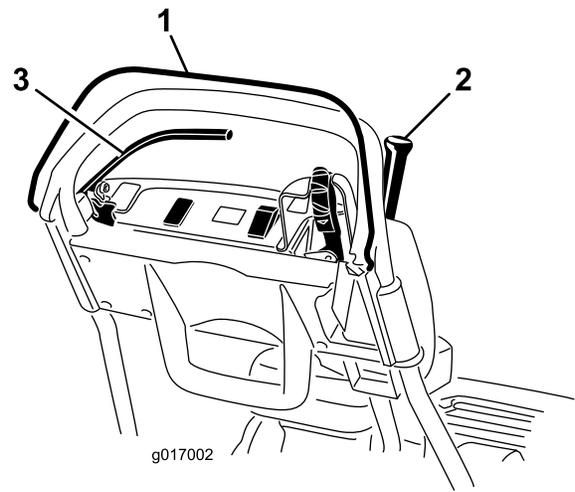

Figure 27
3. With the OPC released, attempt to engage the traction lever (Figure 27). The traction lever should not engage. If the traction lever engages, the interlock system needs service. Correct the problem before operating the machine; refer to Servicing the Traction Interlock Switch \(page 36\).
4. With the OPC pressed and the traction lever engaged, release the OPC (Figure 27). The traction lever should disengage. If the traction lever does not disengage, the interlock system needs service. Correct the problem before operating the machine. Refer to Servicing the Traction Interlock Switch \(page 36\).
5. With the OPC pressed and the shift lever moved to the left, engage the traction and reel drive, release the OPC (Figure 27). The traction lever should disengage. If the traction lever does not disengage, the interlock system needs service. Correct the problem before operating the machine; refer to Servicing the Traction Interlock Switch \(page 36\) or Adjusting the Reel Control \(page 39\).
2. Press the OPC and engage the traction lever (Figure 27)